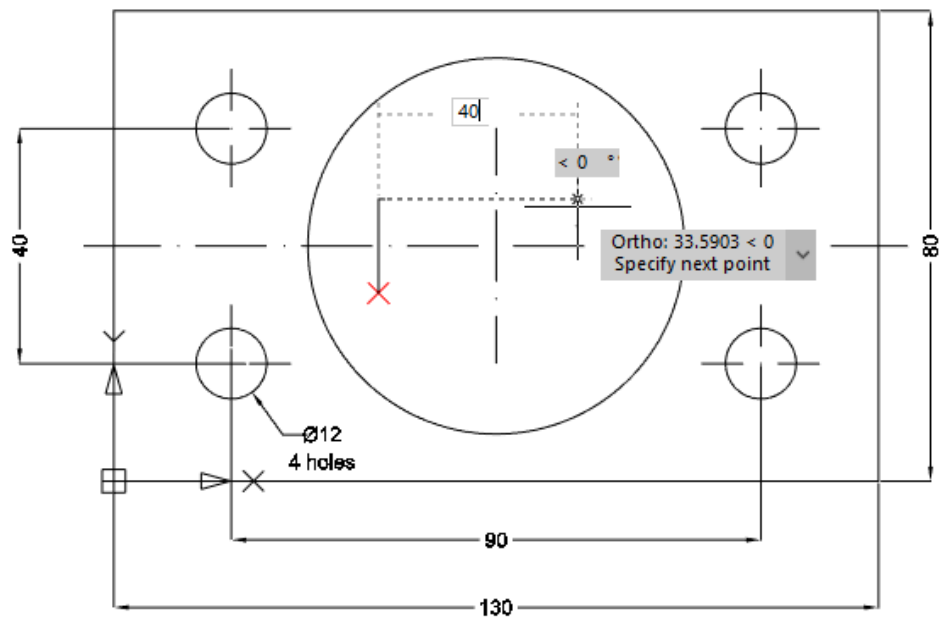

Fig. 3. Dynamic input
1.4. Move the cursor to the right to draw the next point, and type the distance **40** (fig. 3):